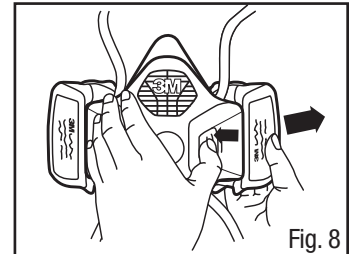

Fig. 8
5. To remove the cartridge, depress the blue cartridge/filter release button and simultaneously pull outward on the cartridge/filter (Fig. 8).